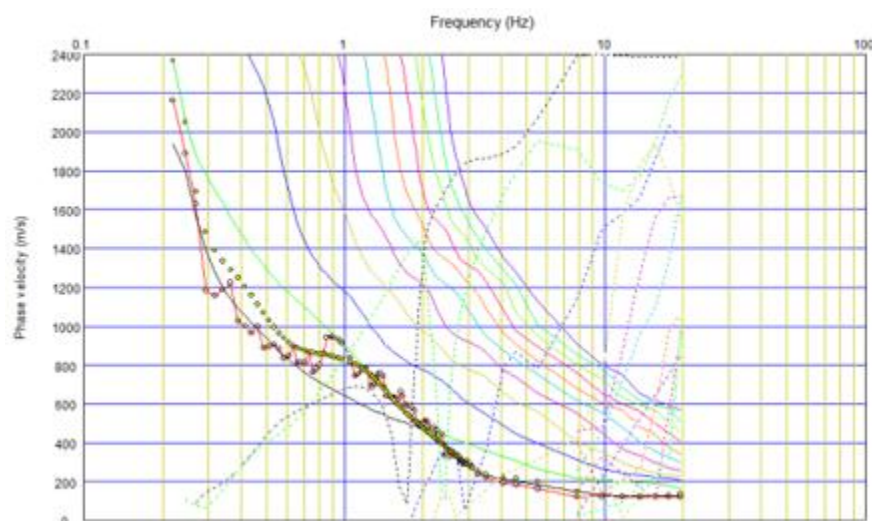

Figure 95: Fundamental mode (dots) along with higher modes.
Traditional analysis of surface wave data generally assumes that a dispersion curve mainly consists of a fundamental mode. Higher modes may dominate in several types of velocity structures, such as a model in which a high-velocity layer overlays a low-velocity layer or a model in which a high-velocity layer is embedded in low-velocity layers. To include higher modes in inversion, SeisImager/SW-Pro introduced several new algorithms, such as a Genetic Algorithm (GA) and inversion with variable layer thickness. Figure 95 below shows a phase velocity-frequency plot that includes higher modes.